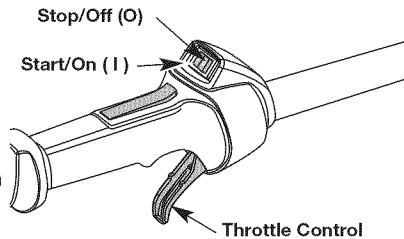

Fig. 10
NOTE: There is no need to turn the unit on. The On/Off Control is in the ON (I) position at all times (Fig. 10).
2. Press and hold On/Off Control in the OFF (O) position until engine comes to a complete stop (Fig. 10).
- NOTE:** There is no need to turn the unit on. The On/Off Control is in the ON (I) position at all times (Fig. 10).